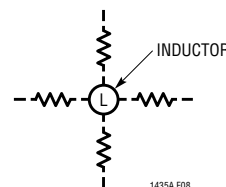

Figure 8. Allowable Inductor/ $R_{SENSE}$  Layout Orientations
Because of the sensitivity of the LTC1435A current comparator when operating close to the minimum on-time limit, it is important to prevent stray magnetic flux generated by the inductor from inducing noise on the current sense resistor, which may occur when axial type cores are used. By orienting the sense resistor on the radial axis of the inductor (see Figure 8), this noise will be minimized.
- If operating close to the minimum on-time limit, is the sense resistor oriented on the radial axis of the inductor? See Figure 8.